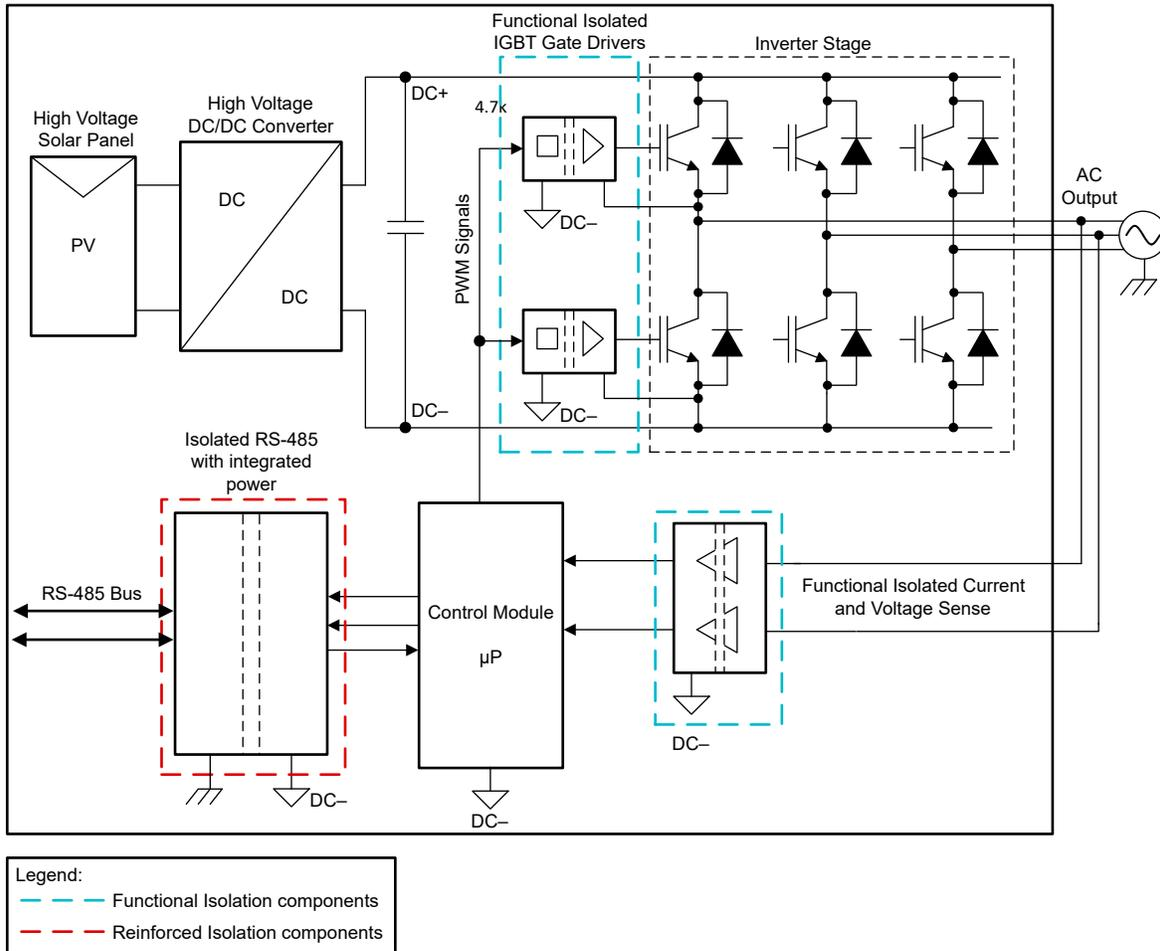

Figure 7. Solar inverter block diagram
- Solar inverters:** Figure 7 shows a solar inverter block diagram. RS-485 interface is often used to communicate from control module to the control station. In this architecture, the control module is functionally isolated from the inverter stage. The trend of increasing the DC link voltages to improve efficiency of the inverters puts additional burden on selecting the isolated RS-485 to meet the higher isolation voltages. To account for the human safety in the control station, the isolated RS-485 also has to comply reinforced isolation standards. By employing the power supply from the DC link side, the ISOW14x2 devices provide 1500 V_{PK} working voltage and reinforced isolation making them ideal to communicate externally from the control module.